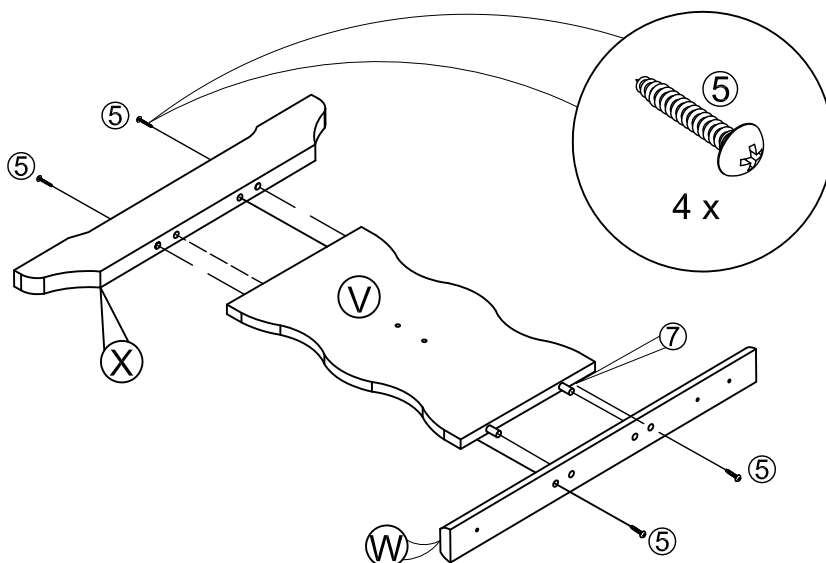

FIGURE 2
- 2.1 ATTACH LEG BASE #X TO LEG #V THROUGH FITTING DOWELS LOCATED ON LOWER END OF LEG #V INTO HOLES LOCATED ON UPPER EDGE OF BASE #X AS GUIDE, SECURE CONNECTION WITH (02) SCREWS ⑤ DRIVEN WITH PHILLIPS HEAD SCREW DRIVER (NOT ATTACHED). AS SHOWN IN FIGURE 2. REPEAT PROCEDURE FOR SECOND LEG #V.
- 2.2 ATTACH TABLE TOP SUPPORT #W TO LEG #V FITTING THE DOWELS LOCATED ON UPPER END OF LEG #V INTO HOLES LOCATED ON SUPPORT #W. USING PRE-DRILLED HOLES AS GUIDE, SECURE CONNECTION WITH (02) SCREWS ⑤ DRIVEN WITH PHILLIPS HEAD SCREW DRIVER (NOT ATTACHED). AS SHOWN IN FIGURE 2. REPEAT PROCEDURE FOR SECOND TOP SUPPORT #W.